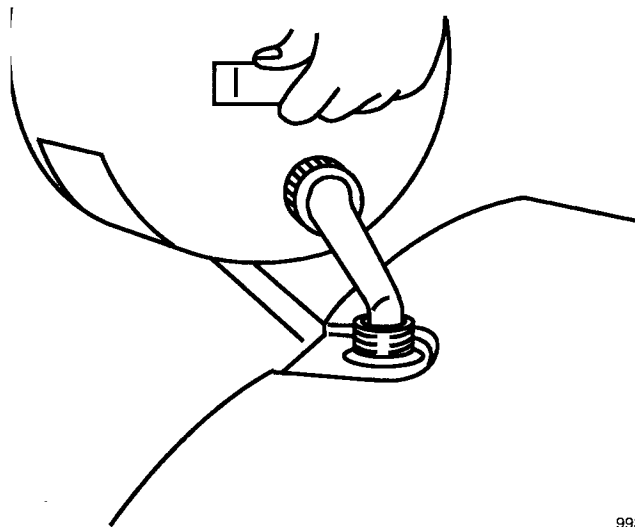

Figure 8
1. Clean around fuel cap before removing (Fig. 8). Fill fuel tank with gasoline/oil mix to within 1/4 inch (6.5 mm) of top of tank, not into filler neck. **DO NOT OVER-FILL TANK.** Replace fuel cap securely and wipe up any spilled fuel.